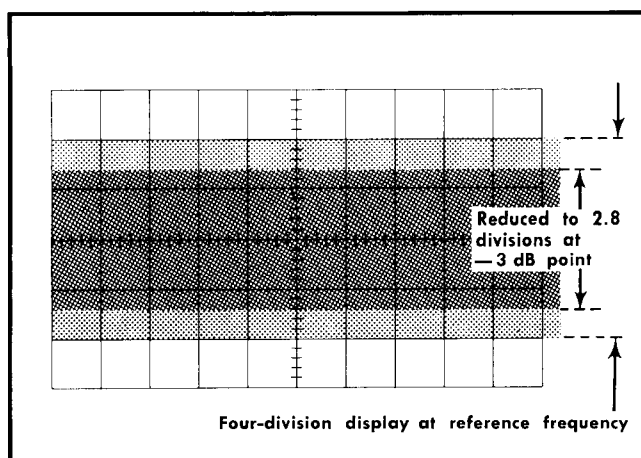

Fig. 5-9. Typical CRT display when checking vertical frequency response.
e. Without changing the output amplitude, increase the output frequency of the generator until the display is reduced to 2.8 divisions (-3 dB point; see Fig. 5-9).
- d. Without changing the output amplitude, increase the output frequency of the generator until the deflection is reduced to 2.8 divisions (—3 dB point; see Fig. 5-9).
- j. Without changing the output amplitude, increase the output frequency of the generator until the deflection is reduced to 2.8 divisions (—3 dB point; see Fig. 5-9).
- e. Without changing the output amplitude, increase the output frequency of the generator until the deflection is reduced to 2.8 divisions (—3 dB point; see Fig. 5-9).
- k. Without changing the output amplitude, increase the output frequency of the generator until the deflection is reduced to 2.8 divisions (—3 dB point; see Fig. 5-9).